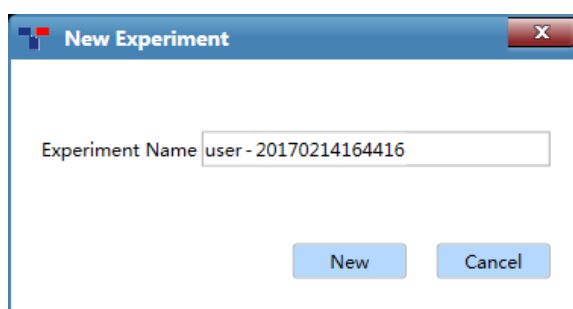

Figure D-2.1b. Quick Start Bar - New Experiment
- Click < **New Experiment** > and the application software will automatically pop up the new experiment dialog box, as shown in figure D-2.1b. User can manually enter a name in the **Experiment Name** input box and choose the experiment save path from **Save Path** drop down list, finally click < **New** > to create a new experiment file.